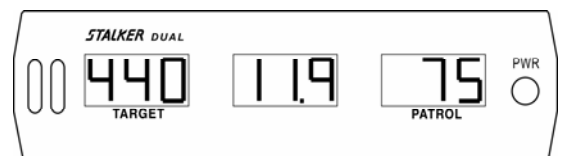

Fig 32
1. Enter Stopwatch mode using the ergonomic remote control by pressing and holding the **STOPWATCH MODE** key for two seconds (Fig 32).